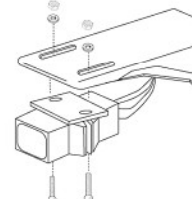

Figure 3
1. Attach the cartridge to the headshell using the screws supplied. See Figure 3. Tighten the screws after positioning the cartridge (and headshell weight, if desired) according to one of the methods described below.